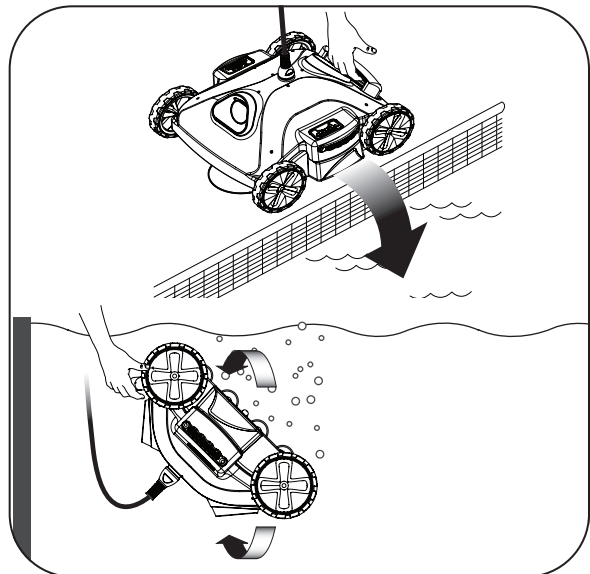

Figure 4. Submerge and Remove Trapped Air
2. Submerge cleaner vertically and turn upside down until the bubbles stop to remove any air trapped inside (Figure 4).